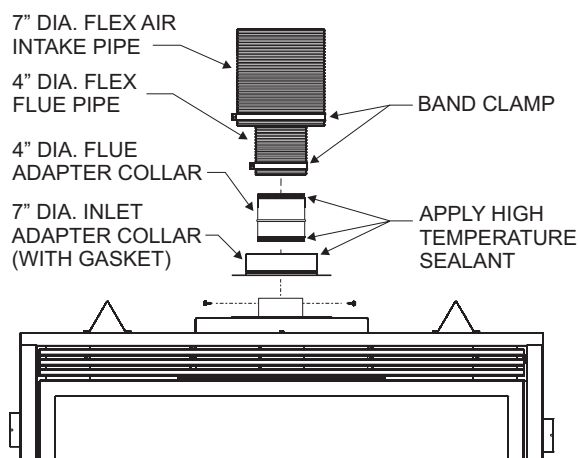

Figure 37
17. To attach the vent connections at the fireplace, be sure the 7" diameter adapter collar has been installed per step 3. Apply a bead of silicone sealant to the 4" diameter flex connector, then slide the flex pipe adapter collar into the fireplace flue collar and secure by installing a minimum of two (2) screws through the flue collar and into the adapter. **See Figure 37.**
18. Apply sealant to the 7" diameter adapter collar, slide outer flex vent over the collar, then secure with a 7" diameter band clamp. **See Figure 37.**